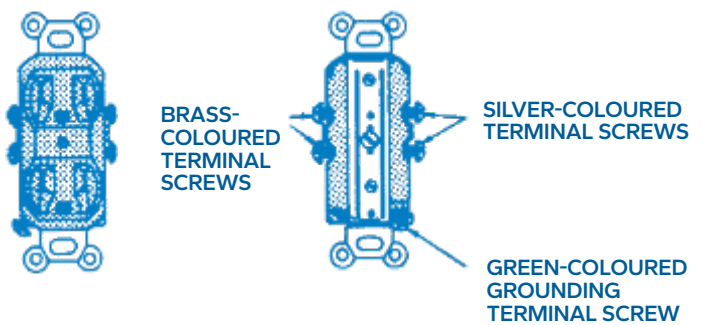

Figure 12 - Identification of terminal screws on receptacles
- Green-coloured screws for the circuit bonding conductor (Figure 12).